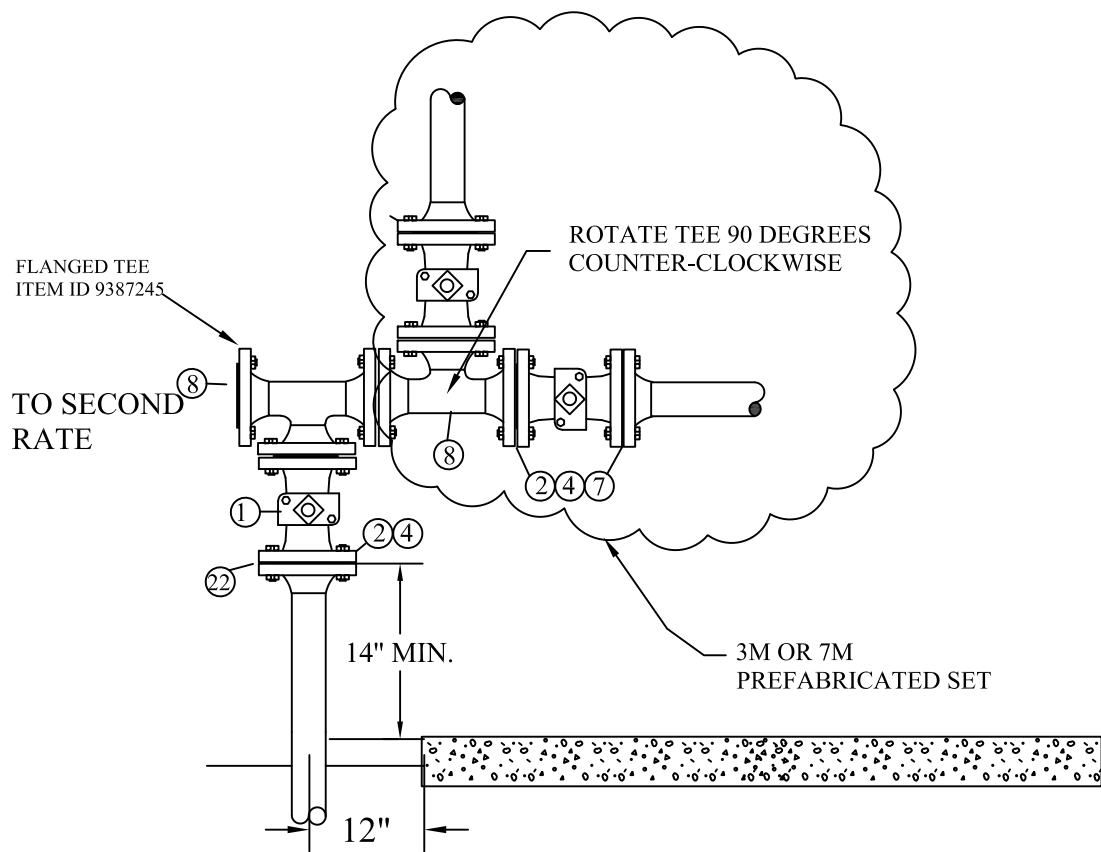

FIGURE 1 - FOR DUAL RATES
- I. FOR PREFABRICATED SETS THAT REQUIRE DUAL RATES, INSTALL FLANGED TEE ON THE RISER VALVE AND THEN ROTATE FLANGED TEE ON THE PREFABRICATED SET FOR THE SECOND METER HEADER. SEE FIG 1 ON PAGE 9.
- H. FOR PREFABRICATED SETS THAT REQUIRE DUAL RATES, INSTALL FLANGED TEE ON THE RISER VALVE AND THEN ROTATE FLANGED TEE ON THE PREFABRICATED SET FOR THE SECOND METER HEADER. SEE FIG 1 ON PAGE 9.